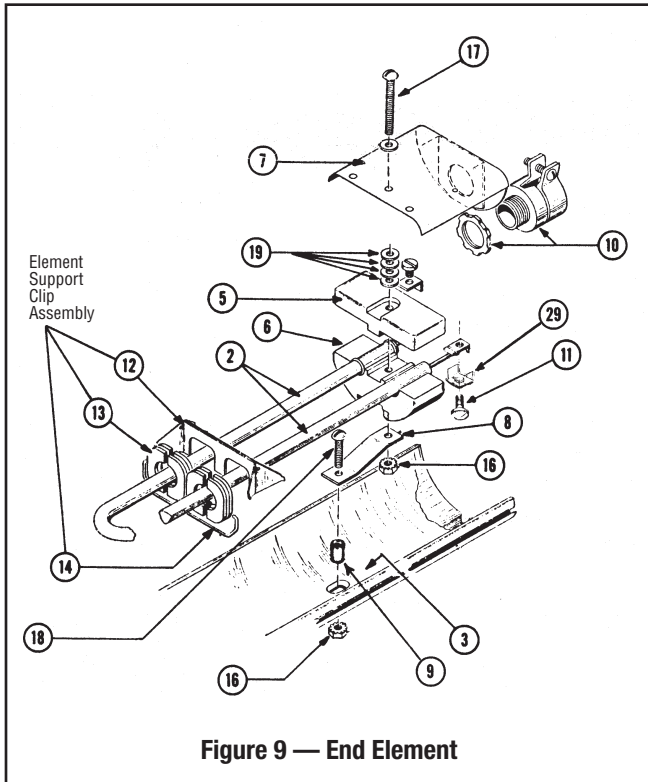
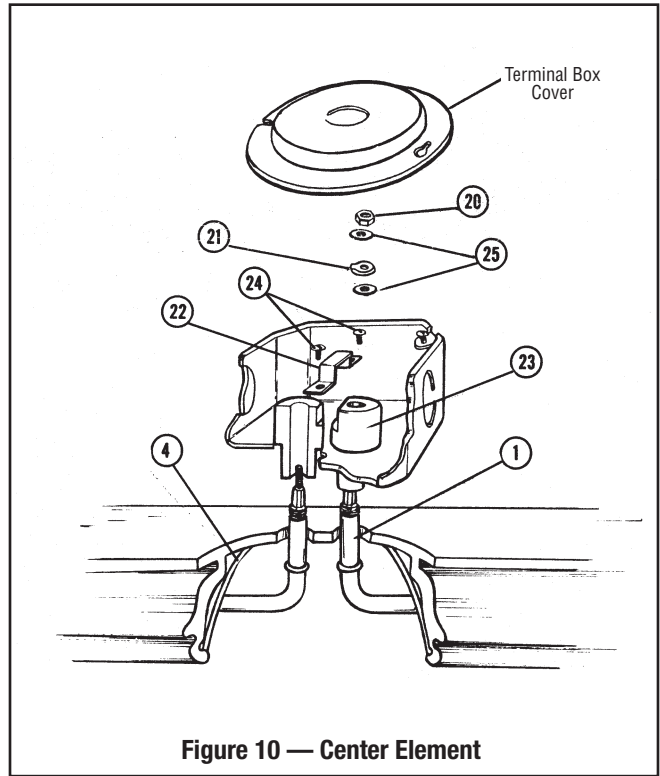

Figure 9 — End Element
Figure 10 — Center Element
Access to the end element terminals is obtained by removing the mounting bolt, nut and spacer (see Figure 9, items 9, 16 and 18) and sliding the terminal end of the element assembly out of the housing.
- A. Remove element assembly mounting nut and bolt (18) and (16) and element support clips (see Figure 9) and slide element assembly out of housing.
- C. Remove screws (24) from secondary insulator retaining bracket and remove bracket (22).
- D. Remove secondary insulation bushings (23).
- E. Unclip element support clips (12) from housing. (See Fig. 10)
- G. Remove element support clips (12), bushing retaining clip (14) and insulating bushings (13) from element.